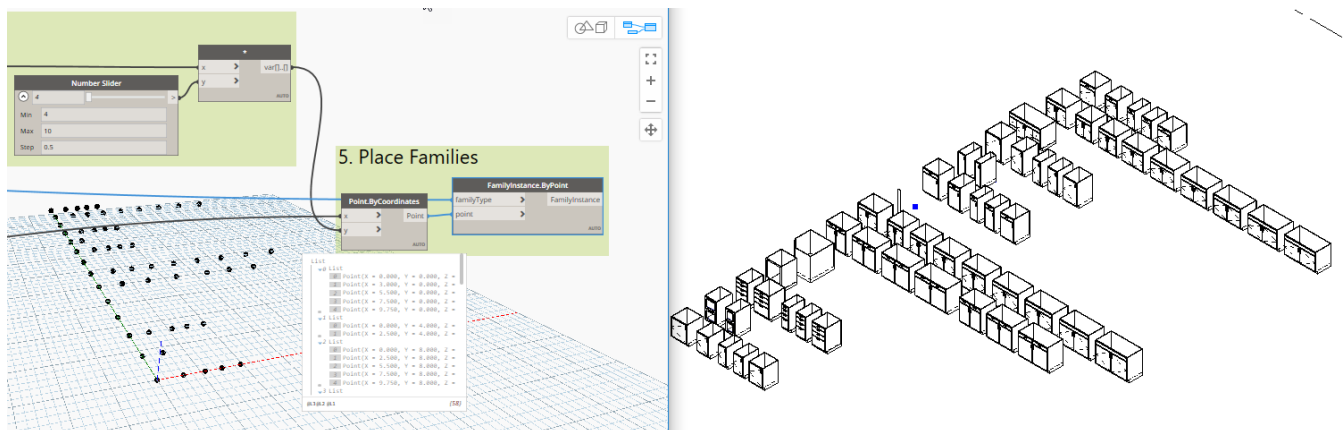

Figure 58
45. Position the Dynamo window such that you can see the Revit window in the background and then run the graph (see Figure 58).